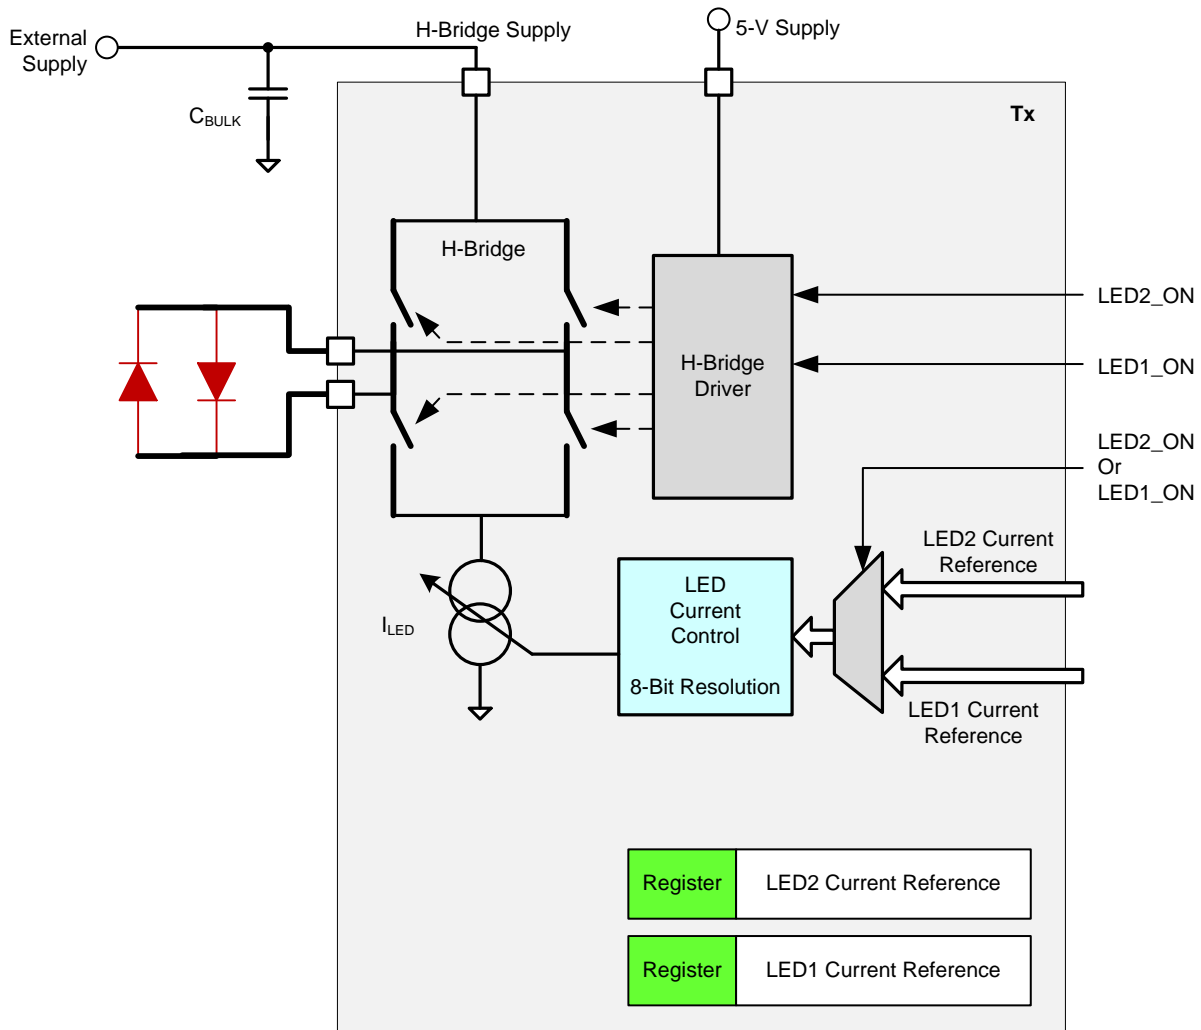

Figure 71. Transmit: H-Bridge Drive
- An H-bridge drive for a two-terminal back-to-back LED package, as shown in Figure 71. The minimum H-bridge supply voltage must be $2.5\text{ V} + (\text{maximum voltage drop across the LED})$.